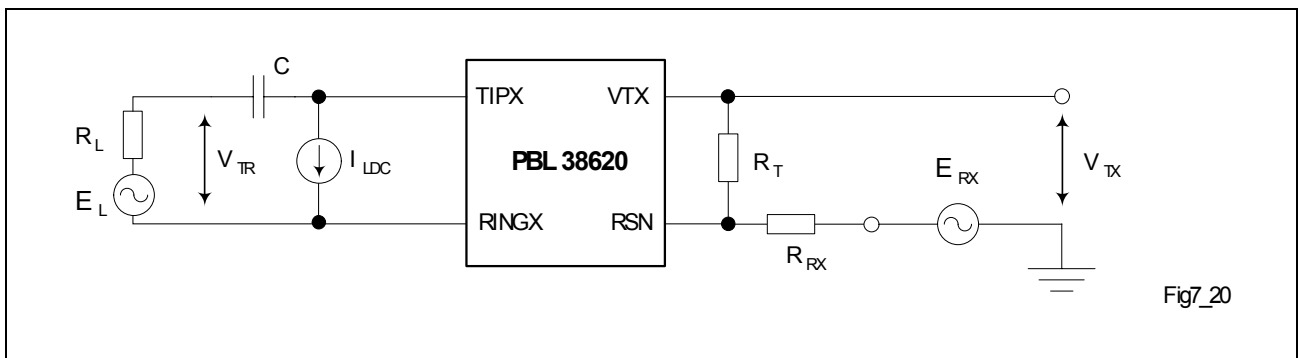

**Figure 7** Frequency Response, Insertion Loss, Gain Tracking
| Four-wire to two-wire,Ref. -10 dBm, 1.0 kHz,see <a href="#">Figure 7</a>                   |                                      | -0.1                                   | –                         | 0.1                                    | dB    | -40 dBm to +0 dBm                       |
| Two-wire to four-wire,see <a href="#">Figure 7</a>                                             |                                      | –                                      | -67                       | -50                                    | dB    | 0 dBm0.3 kHz < f             |
- 8) The two-wire idle noise is specified with the port terminated in  $600\ \Omega$  ( $R_L$ ), and with the four-wire receive port grounded ( $E_{RX} = 0$ ; see Figure 7). The four-wire idle noise at  $V_{TX}$  is specified with the two-wire port terminated in  $600\ \Omega$  ( $R_L$ ). The noise specification is referenced to a  $600\ \Omega$  programmed two-wire impedance level at  $V_{TX}$ . The four-wire receive port is grounded ( $E_{RX} = 0$ ).